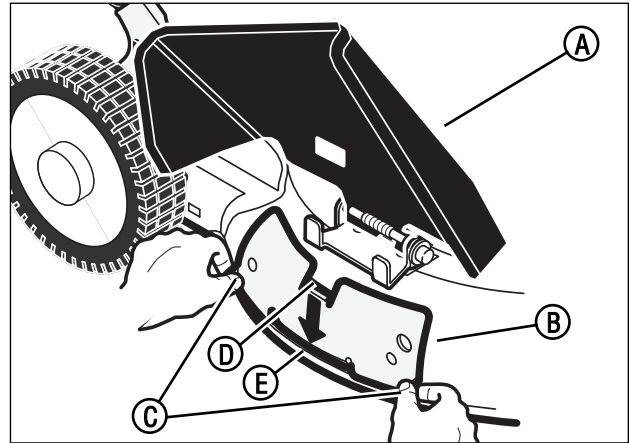

Figure 12: Installing the mulcher plate (MD2250 & NMD2250 only)
1. Raise the chute deflector (A, Figure 12).
2. Align the mulcher plate (B) with the side discharge opening. Make sure that the two alignment bumps (C) are inside the opening.
3. Mount the tab (D) on the top of the mulcher plate to the inside of the mower housing.
4. Mount the tab (E) on the bottom of the mulcher plate to the inside of the mower housing.